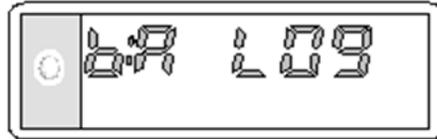

Figure 19 Low Battery Condition
- Permanently displays the message "\*Off\*" or a message indicating a low battery condition illustrated in Figure 19.